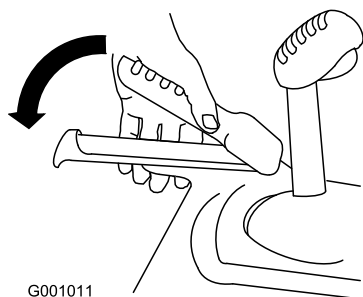

Figure 23
1. To engage the traction drive, squeeze the left (traction) lever to the handgrip (Figure 23).